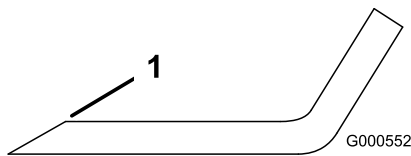

Figure 66
- Use a file to sharpen the cutting edge at both ends of the blade (Figure 66).
Note: If the blade is not balanced, file some metal off the end of the sail area only (Figure 66).